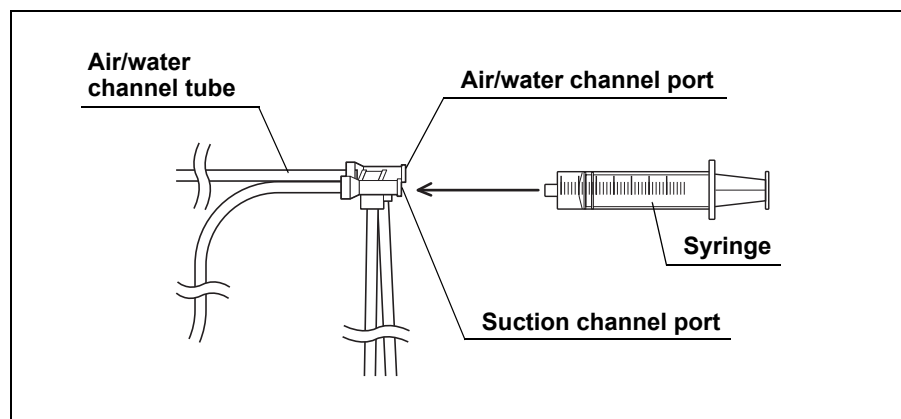

Figure 5.55
20. Attach the syringe to the suction channel port of the injection tube and flush the suction channel with 90 ml of air (see Figure 5.55).
6. Attach a clean 30 ml syringe to the suction channel port of the injection tube and forcefully flush the suction channel with 180 ml of the disinfectant solution – i.e., by pumping the syringe at least six times. Confirm that no air bubbles exit the distal end of the endoscope's insertion section during the sixth flush. If air bubbles still exit, flush the channel with the disinfectant solution until no air bubbles exit (see Figure 5.55).